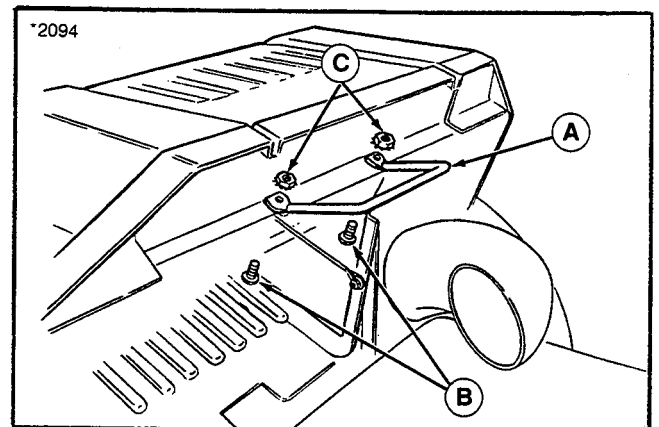

Figure 13.
17. Install handle (A, figure 13) to rear surface of lid with offset toward the rear. Secure with two 10-32 x 1/2 truss screws (B, from inside) and 10-32 nut/washer assemblies (C).